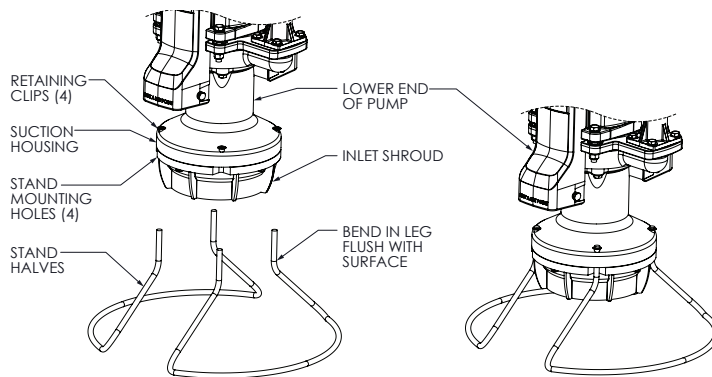

Figure 3
**9. STAND ASSEMBLY (Fig. 3):** Temporarily rest the grinder pump on its side. Using a block of wood or similar object, prop up the lower pump end to allow installation of the pump stand. Align the two legs of each pump stand half with two of the holes in the pump lower end. Push the stand legs into the pump lower end until the stand legs bottom into the mounting holes. Repeat for the other stand half. Turn the pump upright on the installed stand. Install the stand leg retainers to secure the stand to the suction housing.